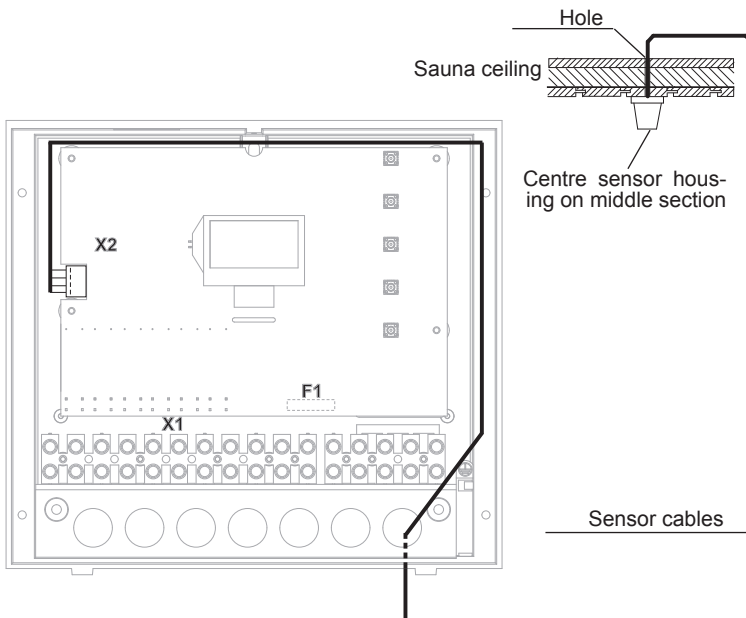

Fig. 11
5. Lead the sensor cables through the right cable intake into the control unit. Install the sensor cables inside the control unit as shown in Fig. 11. Connect the sensor cables as shown in Fig. 12. In order to do this, pull the plug **X2** from the circuit board and plug it back in after the connection.